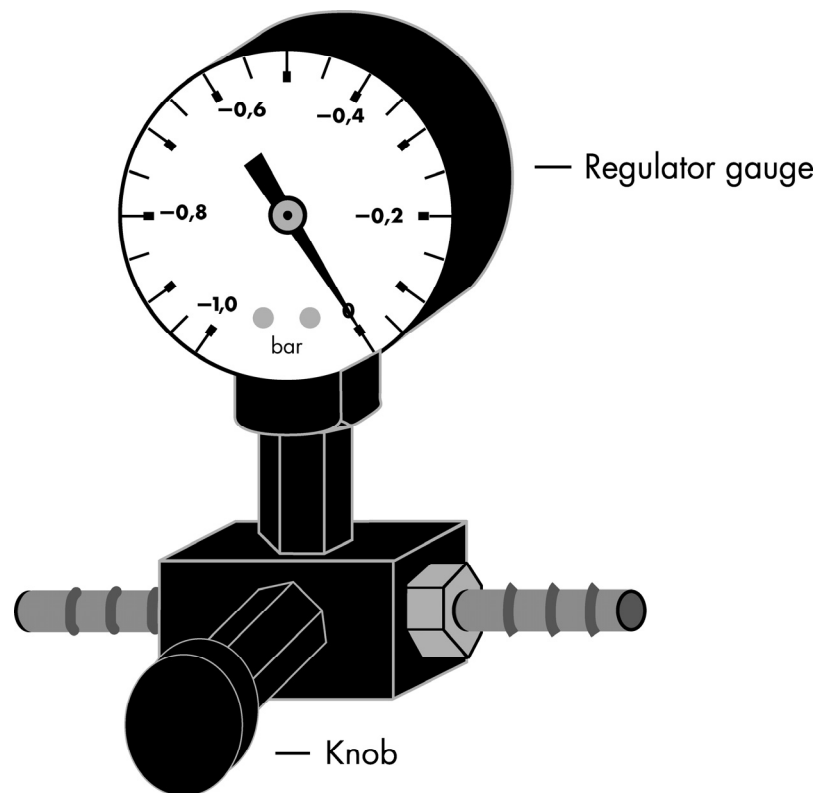

Figure 2. Schematic diagram of the Vacuum Regulator.
- The vacuum pressure is the pressure differential between the inside of the vacuum manifold and the atmosphere (standard atmospheric pressure 1013 millibar or 760 mm Hg) and can be measured using the QIAvac Connecting System or a vacuum regulator (see Figure 2, page 22). The vacuum protocol requires a vacuum pump capable of producing a vacuum of –800 to –900 mbar (e.g., QIAGEN Vacuum Pump). Higher vacuum pressures must be avoided. Use of vacuum pressures lower than recommended may reduce DNA yield and purity and increase the frequency of clogged membranes.
Leave the lid of the QIAamp Mini spin column open while applying vacuum. Switch off the vacuum between steps to ensure that a consistent, even vacuum is applied during processing. For faster vacuum release, a vacuum regulator should be used (see Figure 2, page 22).